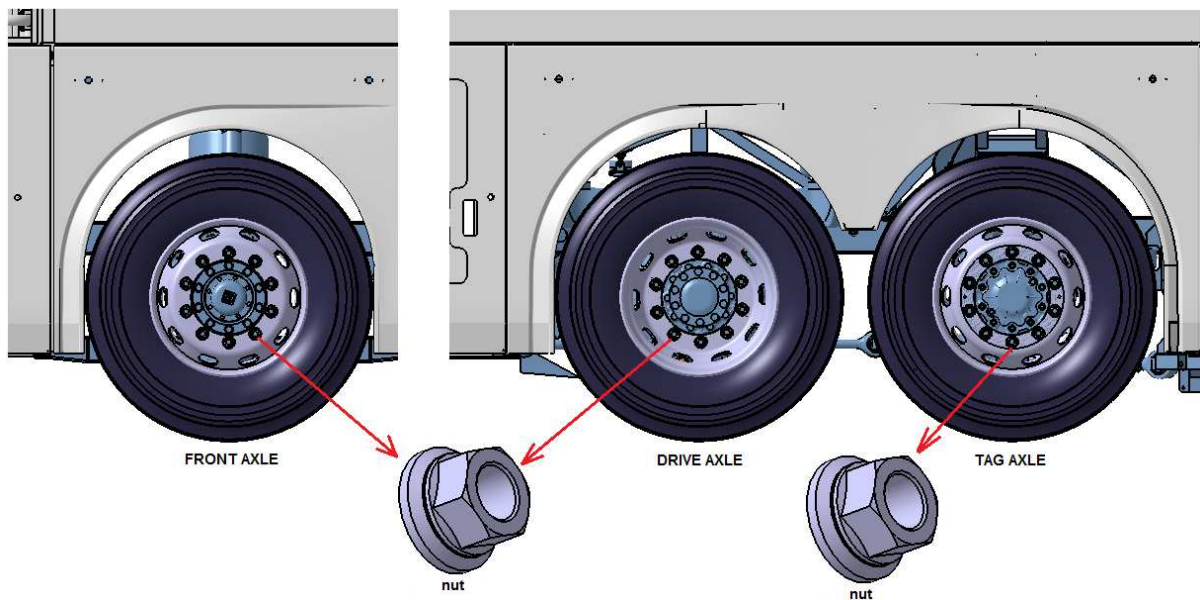

Figure-2
* Remove all the wheel nuts shown in Figure-2.